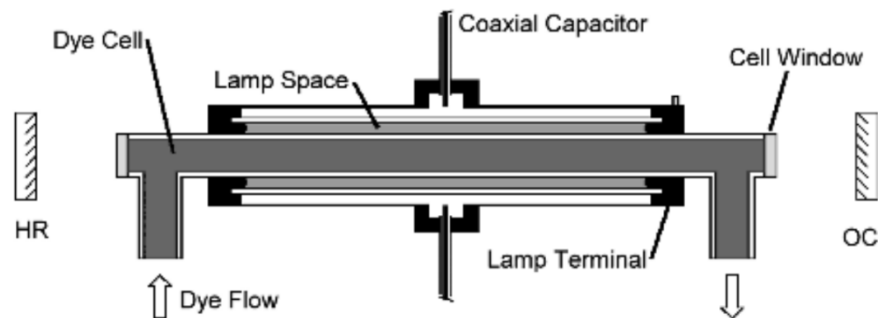

Figure 2: Flashlamp-pumped dye laser configuration.
- The coaxial configuration used in the first lasers of this type is constructed of a space created between the dye cell at the center of the laser and a larger outer jacket, as shown in the cross section of Figure 2.